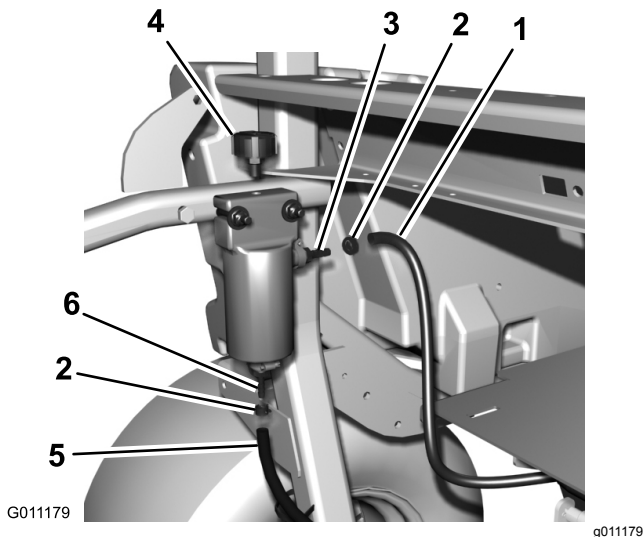

Figure 4
3. Connect the breather hose to the side fitting on the accumulator with a hose clamp (Figure 4).
4. Thread the breather into the top of the accumulator (Figure 4).
5. Connect the new hose to the bottom fitting on the accumulator with a hose clamp (Figure 4).